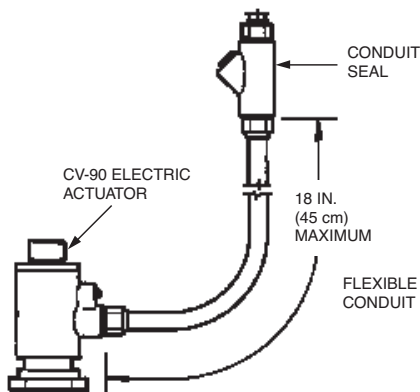

FIGURE 5
- When using the CV-90 electric actuator in hazardous locations, a conduit seal must be installed within 18 in. (45 cm) of the actuator conduit as shown in Figure 5. All wiring must be in accordance with Articles 500 through 503 of the National Electrical Code (NFPA 70).